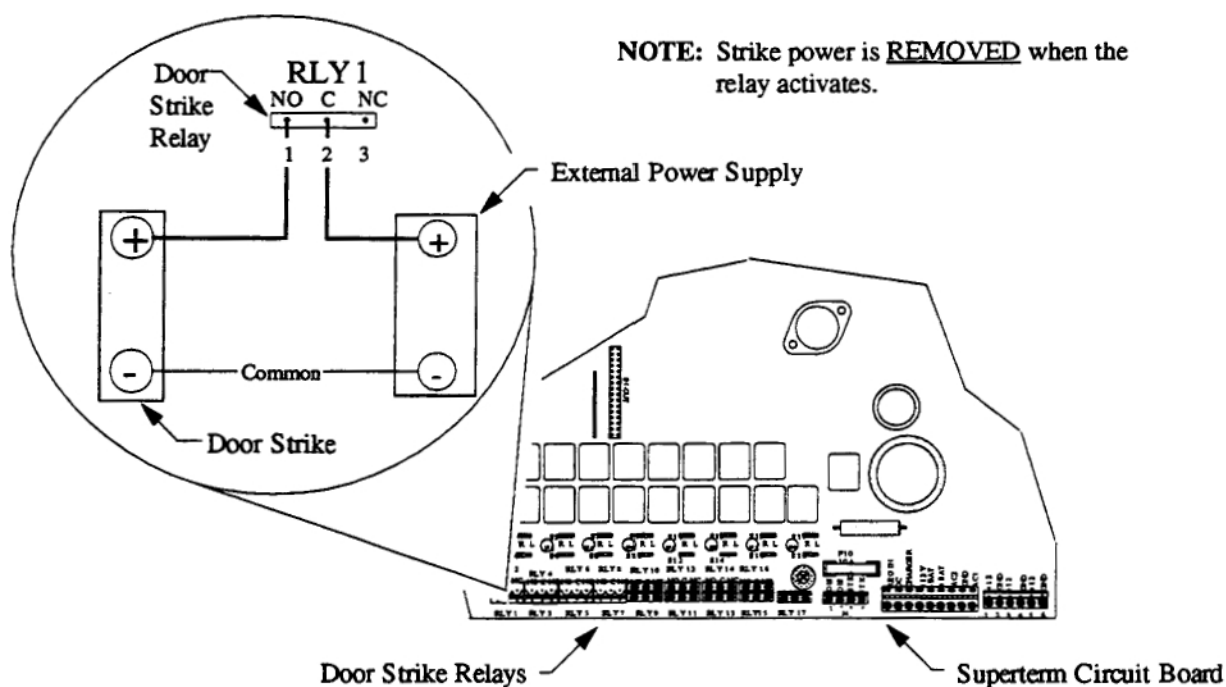

Figure 21 - REMOTE Power Door Strike Relay Connection - Normally Open (NO) Condition
Table 20 lists the connections between the RLY#x terminal strip and the door strike for a Normally Open (NO) relay condition (see Figure 21).